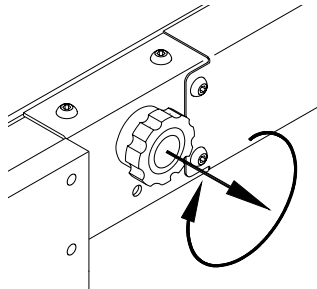

FIGURE 2-17: CLOCKWISE CLOSURES ROLLSTOP
- 3) Refer to **Figure 2-17**. Verify that rollstop is closed (fully up). Pull rollstop control knob out and rotate clockwise, if it isn't up.